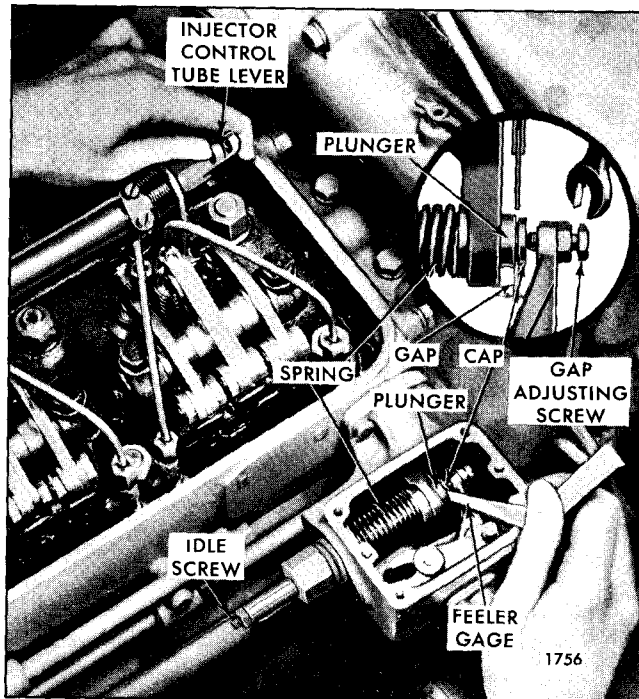

Fig. 2 - Adjusting Gap (Double-Weight Governor) using Tool J 3172
3. Start the engine and loosen the idle speed adjusting screw locknut. Then adjust the idle screw to obtain the desired engine idle speed (Fig. 2). Hold the screw and tighten the locknut to hold the adjustment.
7. Check the gap between the low-speed spring cap and the high-speed spring plunger with a feeler gage (Fig. 2). The gap should be .002"-.004". If the gap setting is incorrect, reset the gap adjusting screw.
2. Turn the idle speed adjusting screw until 1/2" of the threads (12-14 threads) project from the locknut when the nut is against the high-speed plunger (Fig. 2). This adjustment lowers the tension of the low-speed spring so it can be easily compressed. This permits closing the low-speed gap without bending the fuel rods or causing the *yield mechanism springs to yield or stretch*.